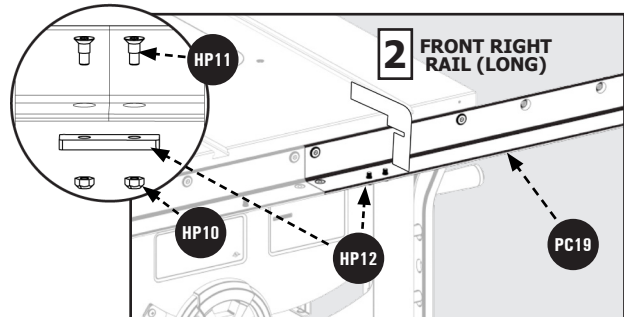

Figure 6
2. Attach the Rail Union Plate (HP12) using (2) M5 x 16mm Flat Countersunk Hex Shoulder Screw (HP11) and (2) M5 Nylock Nuts (HP10) in the two holes where the Rail Sections meet, see Figure 6.